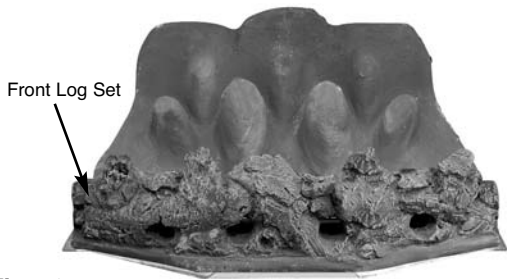

Fig. 40
2. Position the front log set on the front log retainer, making sure that the back edge is pushed up against the front of the burner strip (Fig. 40).